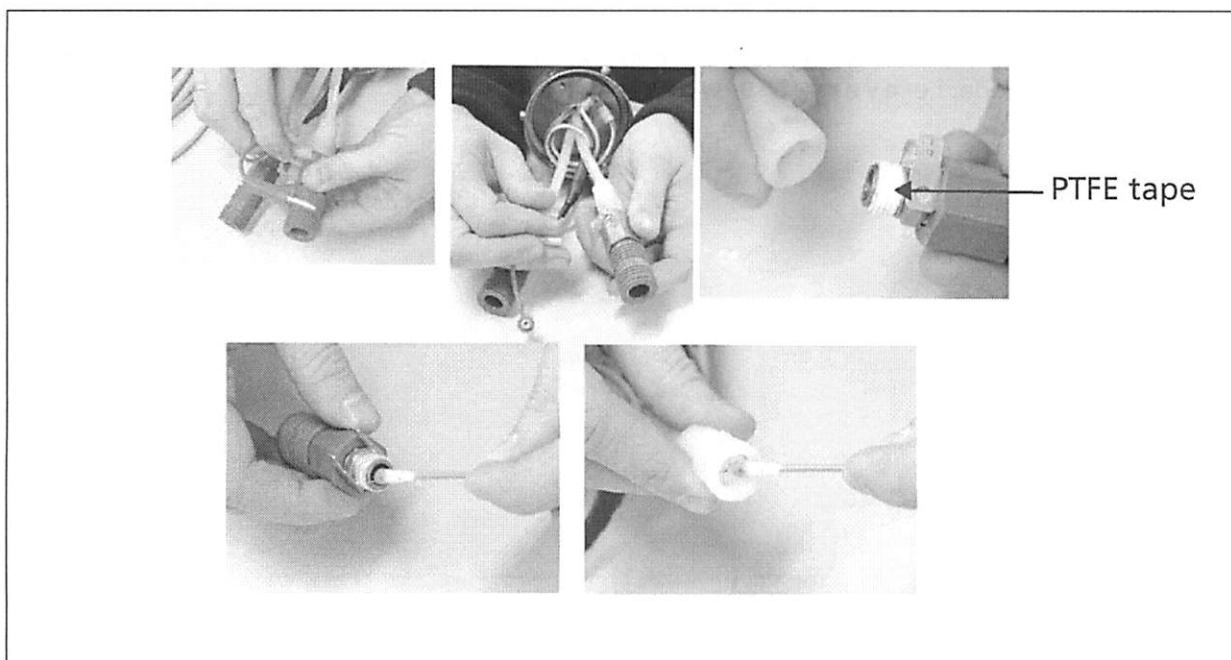

Figure 13
The other places to be cleaned are the HV electrodes and the inner part of the anode (at the water inlet). The **HV electrodes (anode)** and the water inlet part can also be checked if the X-ray source is prepared for bakeout or is checked at least as often as the cathode, i.e. **after 100 working hours** (see figure 13, "HV electrode (anode) cleaning", page 25)!
- Disassemble the quick connector - HV electrode (anode) and hose fitting and clean all parts with tissues / water (figure 13, page 25).